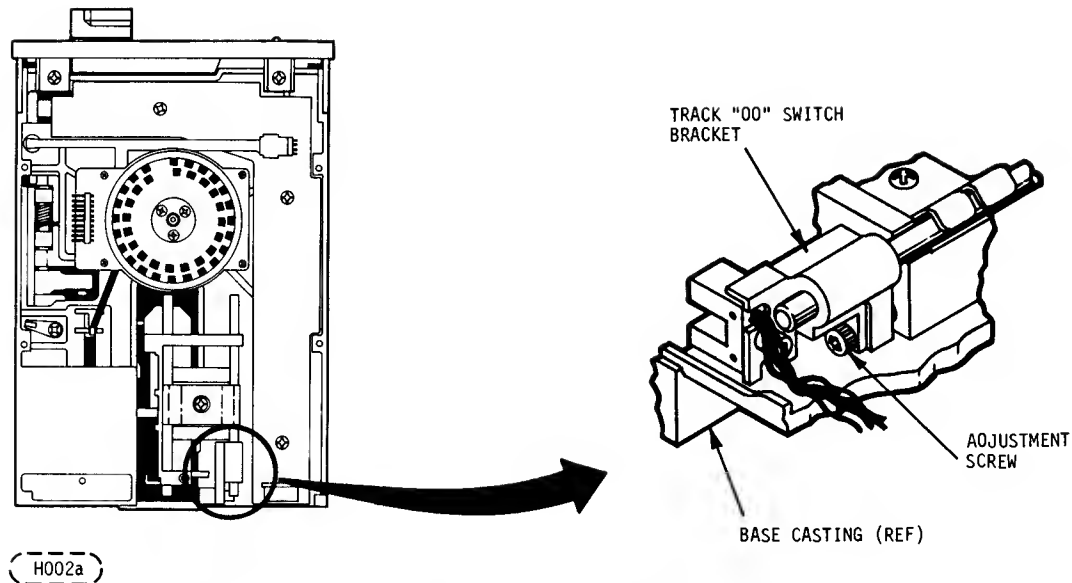

FIGURE 6-7. TRACK '00' ADJUSTMENT
- To adjust, using an Allen wrench, turn the screw (Figure 6-7) that slides the switch bracket to achieve the correct duty cycle.